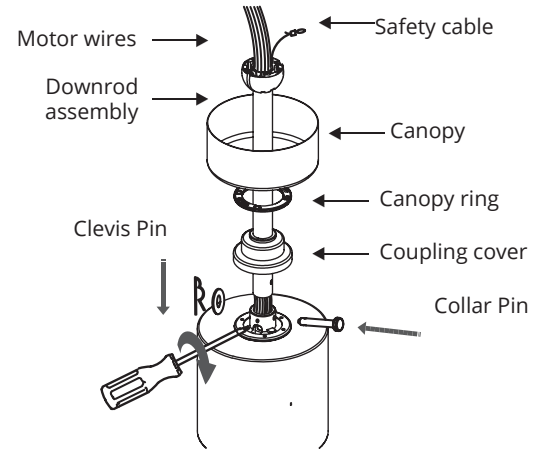

FIGURE 11
1. Remove the clevis pin and cotter pin and loosen the two collar screws from the motor collar (Fig. 11).
4. Thread the downrod assembly onto motor collar. Align the holes of downrod and collar and insert the cotter pin and clevis pin. Tighten the two collar screws (Fig. 11).